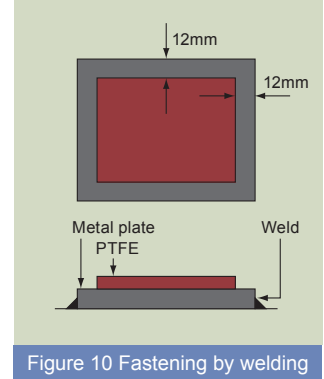

Figure 10 Fastening by welding
- (2) Fastening by welding (see Figure 10)